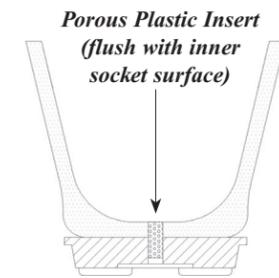
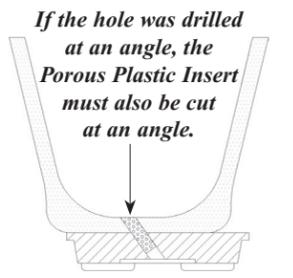

Figure 3
Figure 4
2. To prevent dirt and debris from clogging the airway, place the Porous Plastic Insert inside the 7mm (9/32") hole. Make sure the Porous Plastic Insert is flush with the inner surface of the socket (Figure 3). If the hole was drilled at an angle, cut or sand the Porous Plastic Insert at an angle as well (Figure 4).